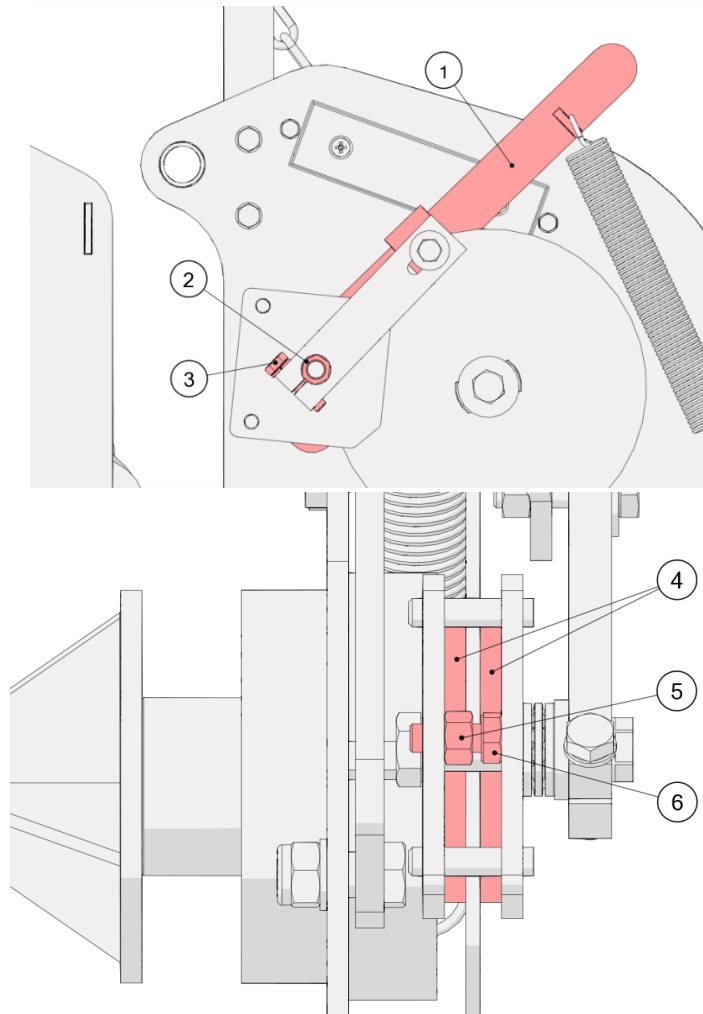

Figure 21. Adjusting the brake of the net wrapper
The net wrapper brake should be adjusted so that it is not possible to rotate the brake disc manually when the lever (1) (Figure 21) is set. To adjust the brake, follow the procedure below.
- Loosen the screw (3) as shown in Figure 21
- Tighten the threaded bushing (2) so that the brake pads (4) sit fully on the brake disc
If the brake pads (4) are worn on one side, follow the procedure (Figure 21):
- Loosen the nut (5)
- Screw in the bolt (6) lightly so that the pads are parallel
- Tighten the nut (5)